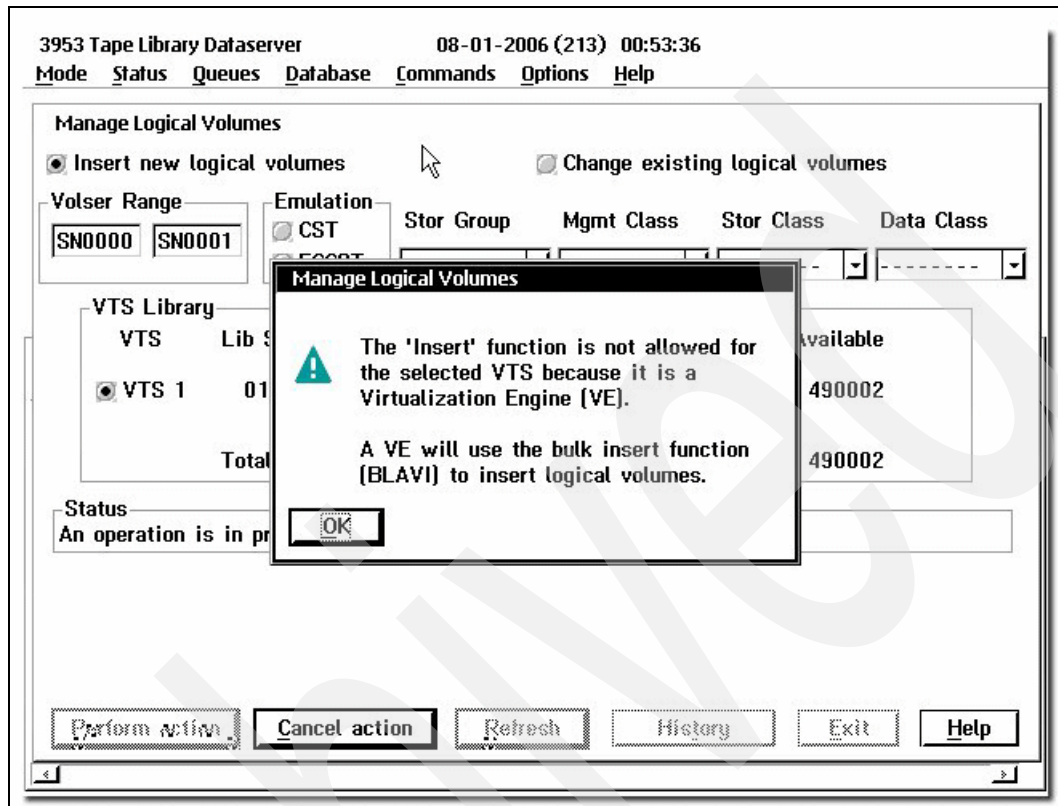

Figure 4-15 User warning for logical volume inserting using Library Manager console
- ▶ **Insert VTS logical volumes:** Use this panel only for the IBM TotalStorage Virtual Tape Server to insert logical volumes into a library. The logical volumes for a TS7700 Virtualization Engine are inserted through the TS7700 Management Interface (MI) which is described in "TS7700 definition using the TS7740 Management Interface" on page 174. If you try here to insert logical volumes for the TS7700 you will get an error message as show in Figure 4-15 on page 154.
- ▶ **Delete VTS logical volumes:** Use this panel only for the IBM TotalStorage Virtual Tape Server to delete logical volumes that have not been checked into a host's tape management system. You can use this window to delete only logical volumes that are in the Insert Category (FF00) from here. With the TS7700 Virtualization Engine this task has also been moved to the TS7700 Management Interface (MI) which is described in "TS7700 definition using the TS7740 Management Interface" on page 174.
If you still try to enter a logical volume range using the Library Manager console for a TS7700 subsystem, you will get a window with a user warning that this operation is not supported for a TS7700 Virtualization Engine, as shown in Figure 4-15.